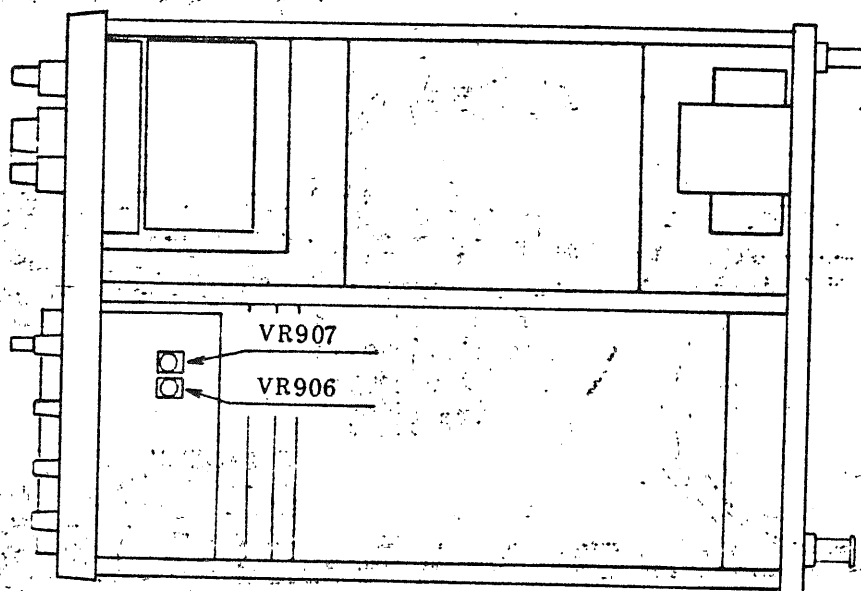

Figure 39 (Bottom view)
- (3) Turn to the extremely counterclockwise position both inner and outer DELAY TIME POSITION knobs. So adjust the LOWER LEVEL ADJ control (Figure 39, VR907) that the left-hand end point of the B sweep portion is set at 0.5 DIV from the left-hand end of the graticule.
- (4) Turn to the extremely clockwise position both inner and outer DELAY TIME POSITION knobs. So adjust the UPPER LEVEL ADJ control (Figure 39, VR906) that the left-hand end point of the B sweep portion is set at 0.5 DIV outside of the right-hand end of the graticule.